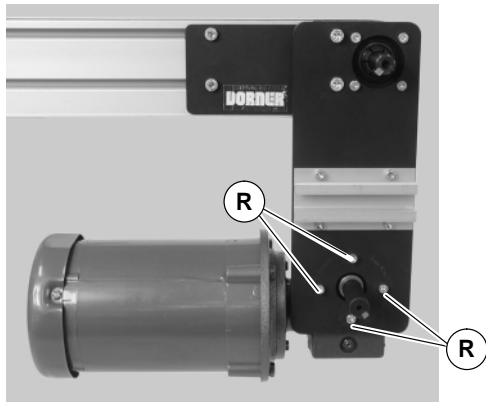

Figure 19
- Remove four (4) gear reducer mounting screws (R of Figure 19). Remove gearmotor.
- Install gearmotor to mounting bracket and tighten screws (R of Figure 19) to 110 in-lb (12 Nm).